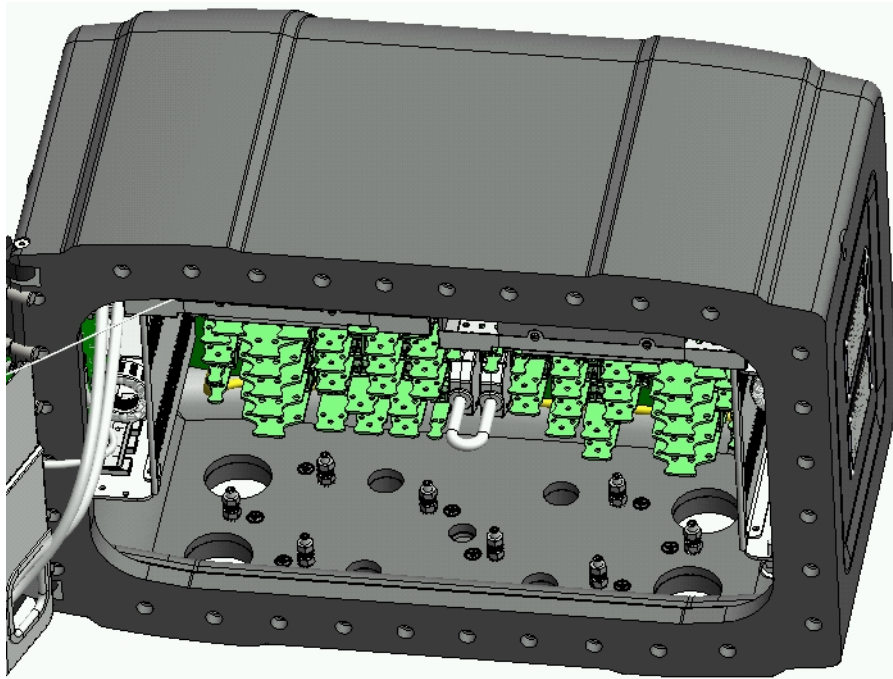

FIGURE 3-10 PE ground connections for external cables
The Protected Earth (PE) ground connections for external cables are connected to one of the nine M4 studs on the bottom side using the gland entries as displayed in FIGURE 3-10.